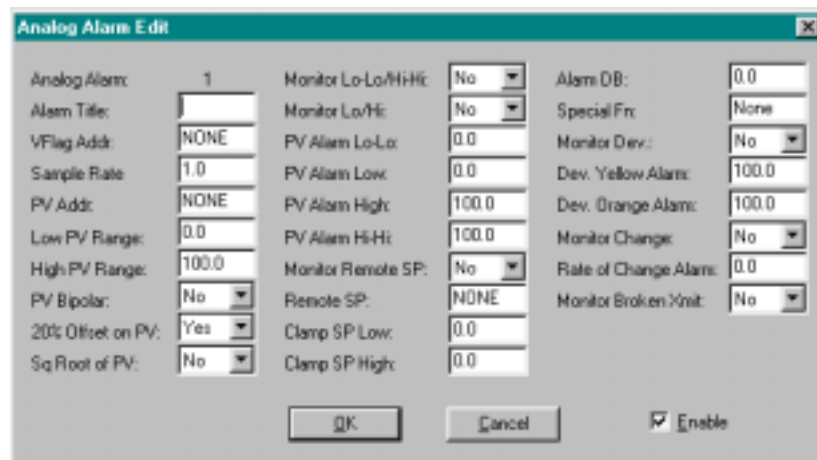

Figure 8.2
5. To edit the selected alarm number, double-click on the alarm number or click on the dialog box Edit button, or use the keyboard to Tab to the Edit button and press Enter. The following dialog box appears (Figure 8.2).